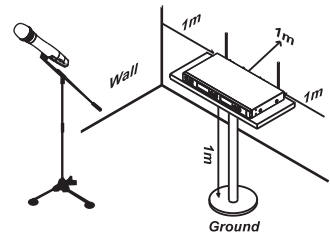

Fig. 7
4. For improving reception range, install the receiver at least 1 meter above the ground and away from EMI / RFI “noise” sources. In addition, place the transmitter at least 1 meter away from the receiving antenna. Fig. 7